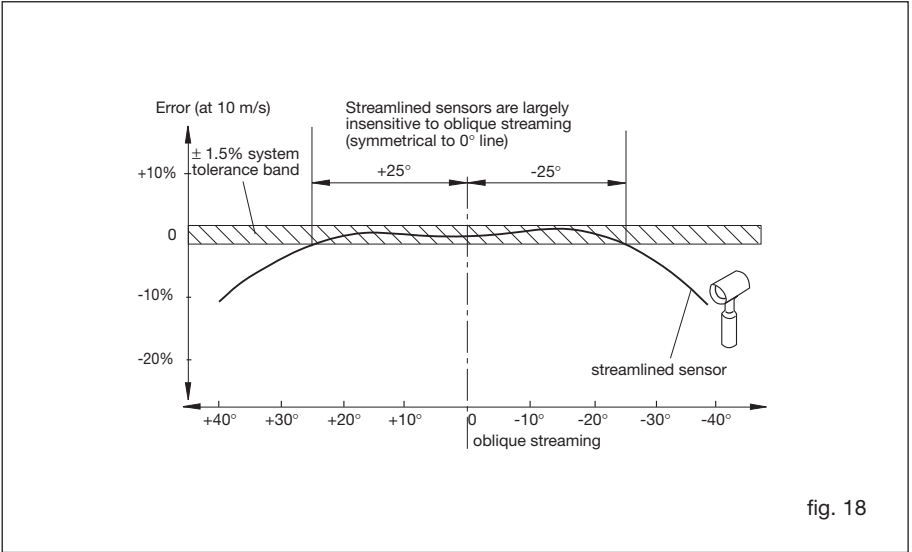

fig. 18
- The sensor must be aligned in the range where it is intensive to oblique streaming (fig. 18). It is correctly positioned when the wrench flats (S) are aligned parallel with the pipeline (in direction of flow).